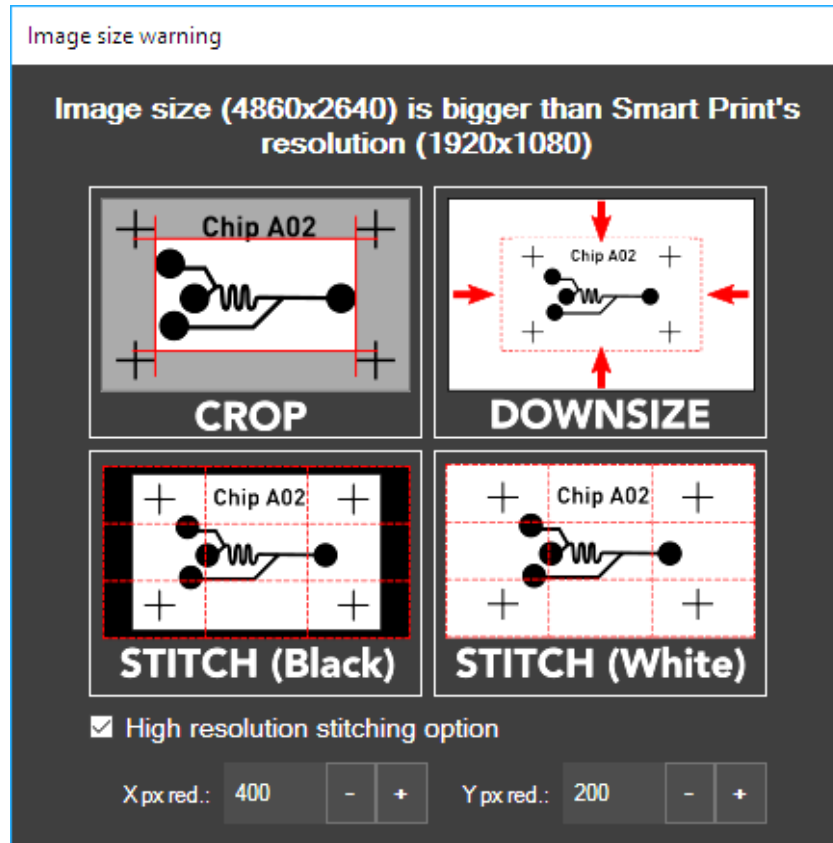

Figure 15 – « Big image » popup dialog
If at least one dimension is higher than the standard dimensions, a message will pop-up when the drawing is added to the drawing list (Figure 15). Three options are then available:
- Add a bitmap drawing on the drawing list by clicking on the **ADD A DRAWING** button then select **STITCH (Black)** or **STITCH (White)** on the **Big bitmap transformation selection** popup dialog (Figure 15).
NOTE ON “HIGH RESOLUTION” STITCHING: If the high-resolution option is checked on the popup dialog Figure 15, the image will be sliced in smaller sub-images to reduce the impact of the optical geometrical aberrations and then increase the overall quality of the lithography. Yet, the increased number of sub-images will result in a higher number of field connection with their intrinsic error. The key parameters **X px. red.** and **Y px. red.** respectively reduce the width and the height of each sub-image. High resolution mode is highly recommended when patterns are relatively small compared to the size of the projected pixel (typically smaller than 5 times the pixel size). Use of the stage play compensation is also recommended for high-resolution stitching.